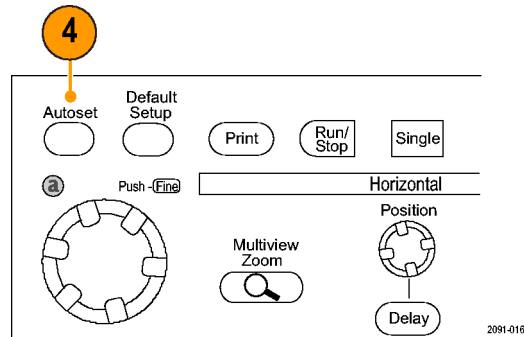

Figure 2-27: Location of AUTOSET button
4. Push **AUTOSET**. See Figure 2-27.